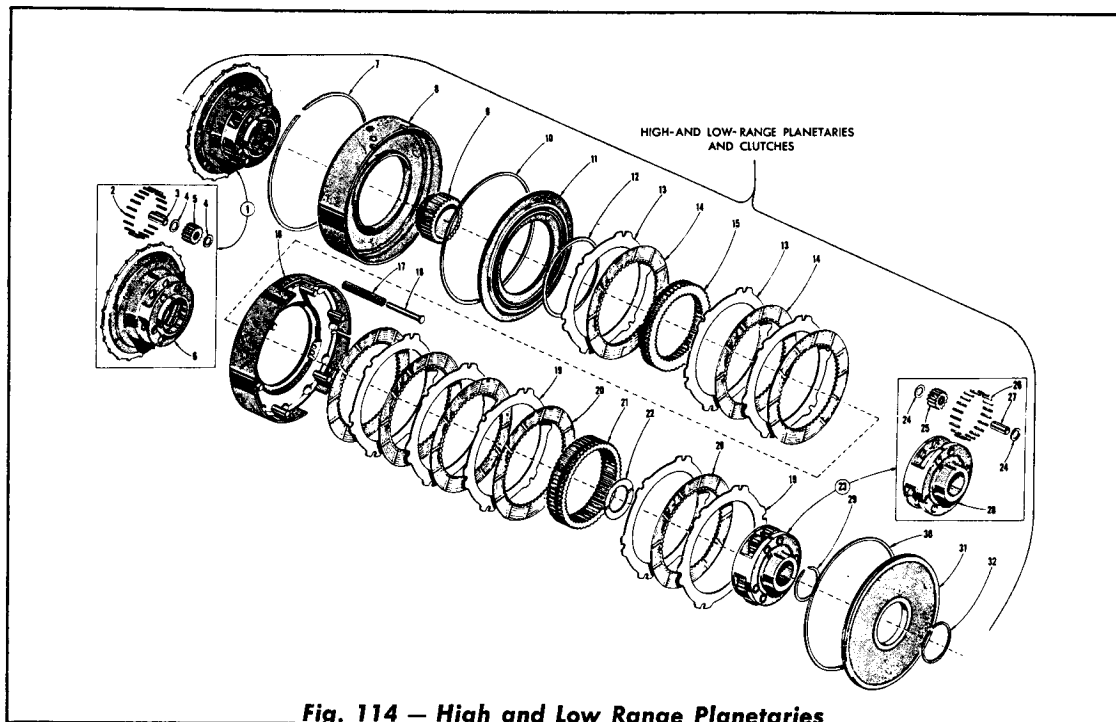
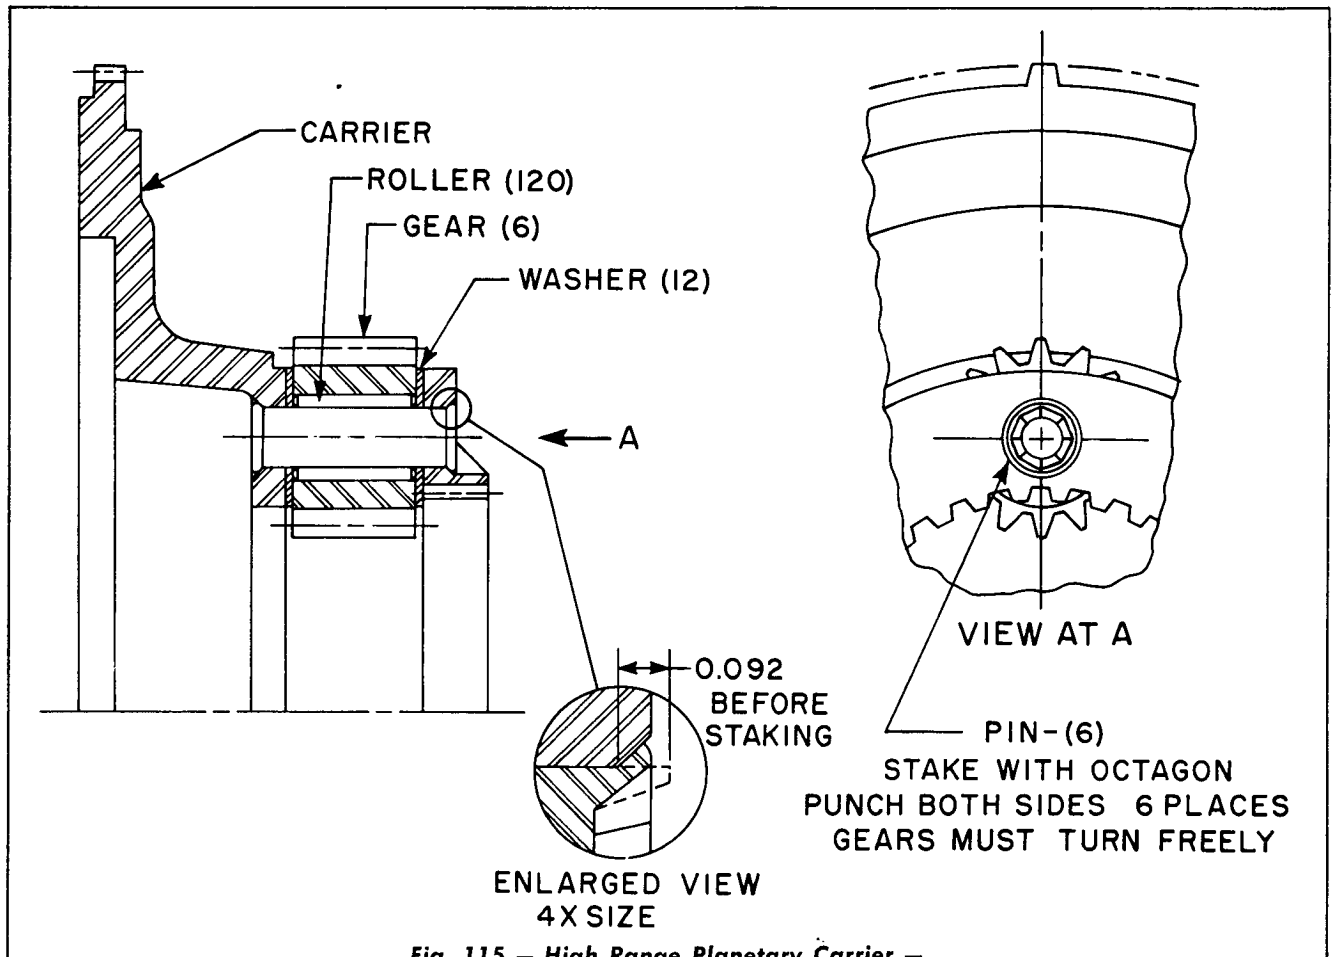

Fig. 114 — High and Low Range Planetaries and Clutches
Fig. 115 — High Range Planetary Carrier — Cross Section
All items, except 1 and 23, Fig. 114, were disassembled in Par. B, in this Topic.
2. High Range Planetary Carrier, Disassembly (Fig. 114)
- b. Press on the drilled end of each pin (3) to remove them from the planetary carrier (6).
- c. Remove the pinion rollers (2), the pinion thrust washers (4) and the planetary pinions (5).
3. Low Range Planetary Carrier, Disassembly (Fig. 114)
- a. Using a drill of slightly smaller diameter than the outside diameter of the planetary pinion pin (27), drill a hole in one end of each pin to weaken the staking.
- b. Press on the drilled end of each pin to remove it from the planetary carrier (28).
- c. Remove the pinion rollers (26), the pinion thrust washers (24), and the planetary pinions (25).
Refer to Fig. 114 for wear limits.
5. High Range Planetary Carrier, Assembly (Fig. 114)
- a. Grease the pinion thrust washers (4) and install one on one end of each planetary pinion (5).
- b. Grease the bores of the planetary pinions (5) and install twenty rollers (2) into each pinion. An aligning tool placed in the bore of the pinion will facilitate this installation. The tool can be made by grinding a discarded spindle pin to 0.005" undersize. Install a pinion thrust washer (4) on the other end of each planetary pinion (5).
- c. Install, as a unit, the pinions, the rollers, and the washers into the planetary carrier (6).
- d. Align the bores in the pinions with the bores in the carrier and press new spindle pins (3) into the carrier to the dimension shown in Fig. 115. Stake both sides of each spindle pin with octagon punch. Check each pinion after staking to be sure that it rotates freely.
6. Low Range Planetary Carrier, Assembly (Fig. 114)
- a. Grease the pinion thrust washers (24) and install one on one end of each planetary pinion (25).
- b. Grease the bores of the planetary pinions (25) and install sixteen pinion rollers (26)